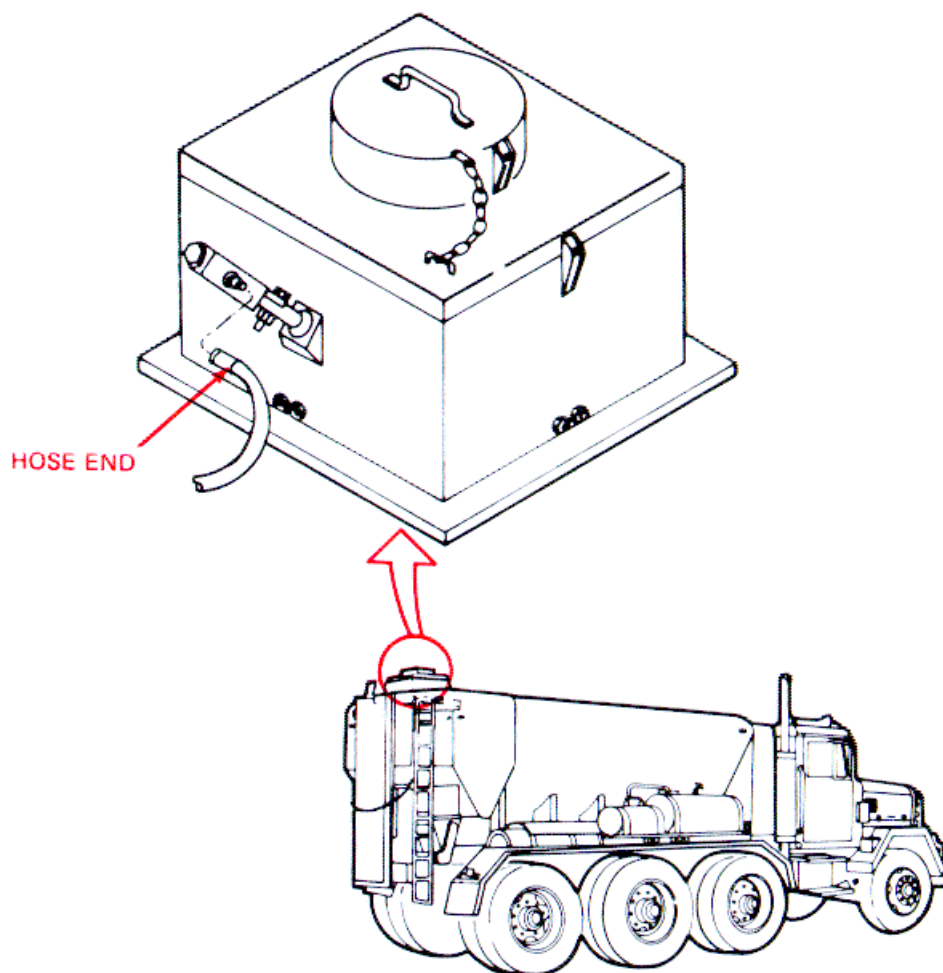

Figure 2-19. Screen Vibrator Quick-Disconnect.
- b. Use the quick-disconnect fitting to connect the vibrator air line. The vibrator shakes a screen Inside the hopper to sift the cement (fig. 2-19).
- e. Disconnect vibrator air line (fig. 2-19).